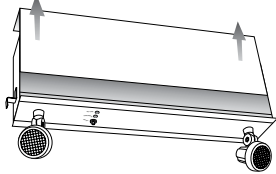

Figure 4
4. Mount the unit securely into place. Do not rely on the suspended ceiling channel/grid (T-bar) as the only support for the unit. There are two chain mounting holes provided on either side of the top of the unit. Chain or mounting wire should be secured through these holes and then to a secure mounting above the suspended ceiling (Figure 4)